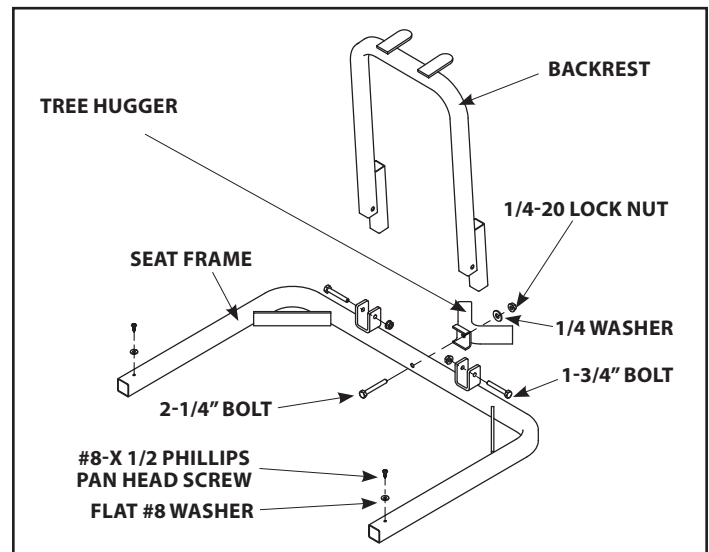

FIGURE 1
1. Attach the tree hugger (3) to the seat frame (4) using one 1/4-20 x 2-1/4 IN bolt (5), nut (9) and washer (7). **SEE FIGURE 1. TIGHTEN SECURELY.**
2. Attach the backrest (2) to the seat frame (4) using two 1/4-20 x 1-3/4 IN bolts (6) and nuts (9). **SEE FIGURE 1. TIGHTEN SECURELY!**
- NOTE: Pay special attention to orientation of both parts. SEE FIGURE 1.**
3. Attach the two armrest pads (12) to each arm rest portion of seat frame by wrapping around metal tubing and attaching hook and loop together with hook and loop on seat straps.
4. Attach backrest portion of seat (11) to the backrest (2) by wrapping hook and loop straps around metal tubing and securing together.